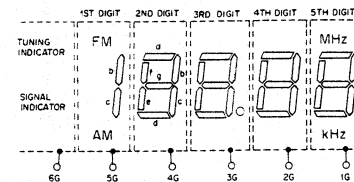
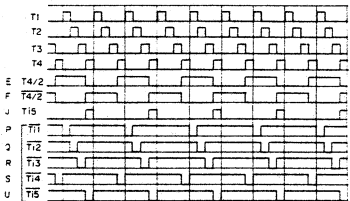
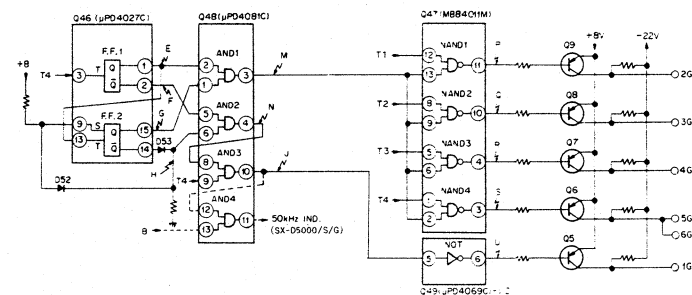
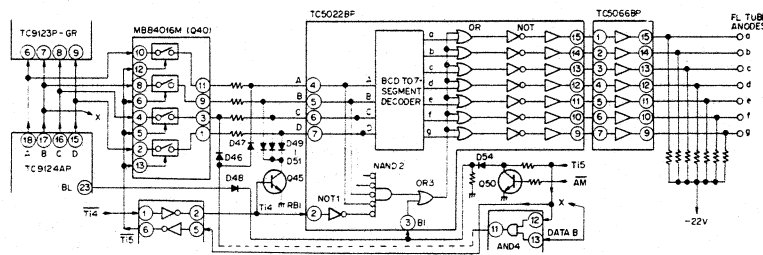

Fig. 4-13 FL Tube 5-digit Digital Display
Fig. 4-15 Time Division Pulse Time Chart
Fig. 4-14 Time-share Converter Logic Circuit
Fig. 4-16 Anodes of the FL Tube Drive Circuit
The SX-D5000 displays the selected station frequency on a 5-digit digital display using a fluorescent indicator tube (FL tube) as a source. As noted in Fig. 4-13, the FL tube display grids are divided into five independent units.
Fig. 4-14 illustrates the configuration of the time-share converter logic. The terminals 1G thru 6G noted on the right side of the figure are connected to the FL tube grids (See Fig. 4-13). When no time division pulses (T1–T4) are present, the NAND gates 1 thru 4 (Q47) and the NOT gate (Q49) output P, Q, R, S, and U respectively at a high level. Thus, Q5 thru Q9 are off; the FL tube grids are reverse-biased, and no light is emitted.
Fig. 4-15 shows the time division pulse time chart. The time division pulses U, S, R, Q, and P shown in Fig. 4-15 are applied to the bases of Q5 thru Q9. One by one they become active, providing dynamic time division drive to the 5-digit display.
Referring to Fig. 4-14, pulse T4 (Fig. 4-15-T4) is applied to the clock terminal (T) of flip-flop 1 (Q46), the output E is as illustrated in Fig. 4-15-E. (Flip-flop 1 is reversed on the rising edge of T4, and divides the frequency of the pulse in half.) When a +B signal applied to the set terminal (S) of flip-flop 2 brings it to a high level, output G from the Q terminal goes to high level independent of the input at the clock terminal (T). Output M from AND1 (Q48) is gated by input G at a high level, and is equal to input E. It is illustrated by Fig. 4-15-E. AND2 (Q48) will gate when D52 is conducting, thereby setting input H to a high level. Output N is equal to input F, and is illustrated by Fig. 4-15-F. Output J from AND3 (Q48) is the AND of input N (Fig. 4-15-F) and T4 and is illustrated by Fig. 4-15-P, Q, R, S. Output U from NOT (Q49) is the negation of input J (Fig. 4-15-J) and is shown by Fig. 4-15-U. Through the use of the above logic gates the indicator time division pulses (T11–T15) are
The formulation of the numerical digits by the FL tube is accomplished by 7 segments, illustrated as a through g in Fig. 4-13. (The first digit uses only b and c.) TC9124AP transmits the time-shared reception frequency data T1–T4 as BCD code from terminals A, B, C, and D. (See table 2.) MB84016M (Q40) in Fig. 4-16 is an electronic switching device activated by the appearance of a T15 pulse, as represented by U in Fig. 4-15. It serves to inhibit the transmission of frequency data to the 5th digit. The frequency data is converted from BCD code to decimal number 7-segment display data by TC5022BP. The 7-segment display data is passed